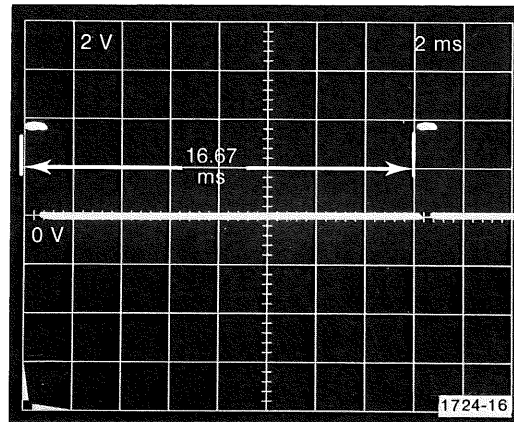

Figure 3-6. Vertical Interval.
- b. Change the oscilloscope sweep to 2 ms per cm, and move the probe to U485, Pin 9 (Figure 3-4). Set the trigger control to positive level and positive slope. Move the Serration strap to the WO/S position. Observe two pulses with a period of 16.67 ms (equal to the vertical interval, V), as shown in Figure 3-6. The pulse at this pin occurs during the time at which serrations appear in the vertical sync and equalizing pulses. The period between pulses is the inverse of the field rate. For example, at 60 fields per second, the period would be 16.67 ms. Replace the serration strap to the W/S position.